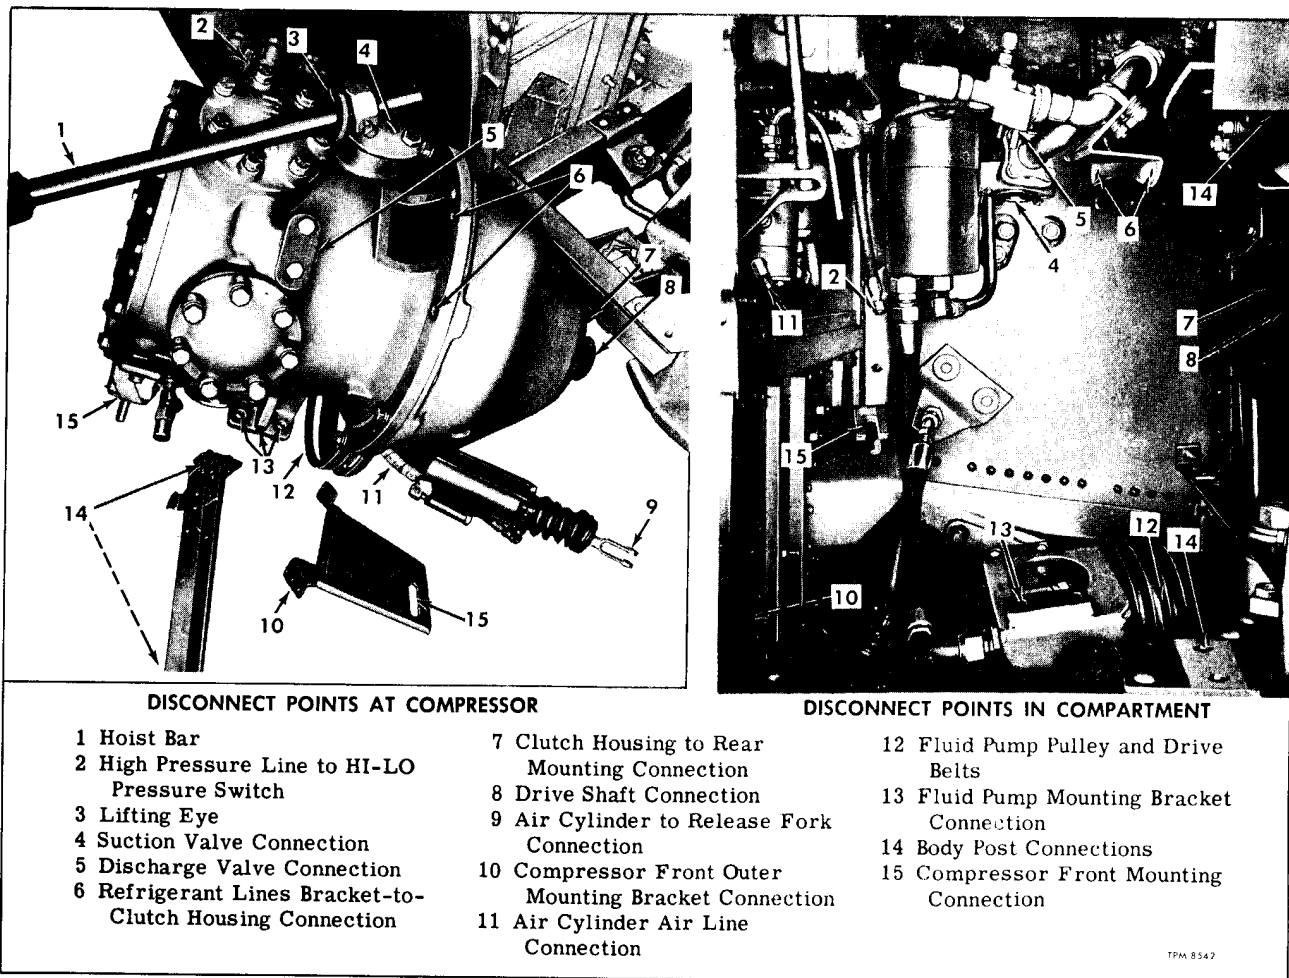

Figure 34—Compressor and Clutch Assembly Disconnect Points
NOTE: Key numbers in text refer to figure 34.
NOTE: Key numbers in following text refer to figure 34.
2. Build up compressor unit to stage shown in Left View of figure 34.
3. Place compressor unit into compartment, and at same time engage drive shaft yoke (8) over splines of compressor clutch shaft.
4. Install four bolts (7) which attach clutch housing to compressor rear mounting bracket inner ring.
5. With sealing compound applied to contact surface of compressor front outer mounting bracket (10), attach bracket to body bulkhead. Tighten attaching bolts firmly.
6. Install nuts loosely attaching compressor front rubber mountings (15) to mounting brackets. Make sure same number of shims are inserted between mounting cushion and bracket each side of compressor, then tighten mounting nuts to 30 to 40 foot-pounds torque.